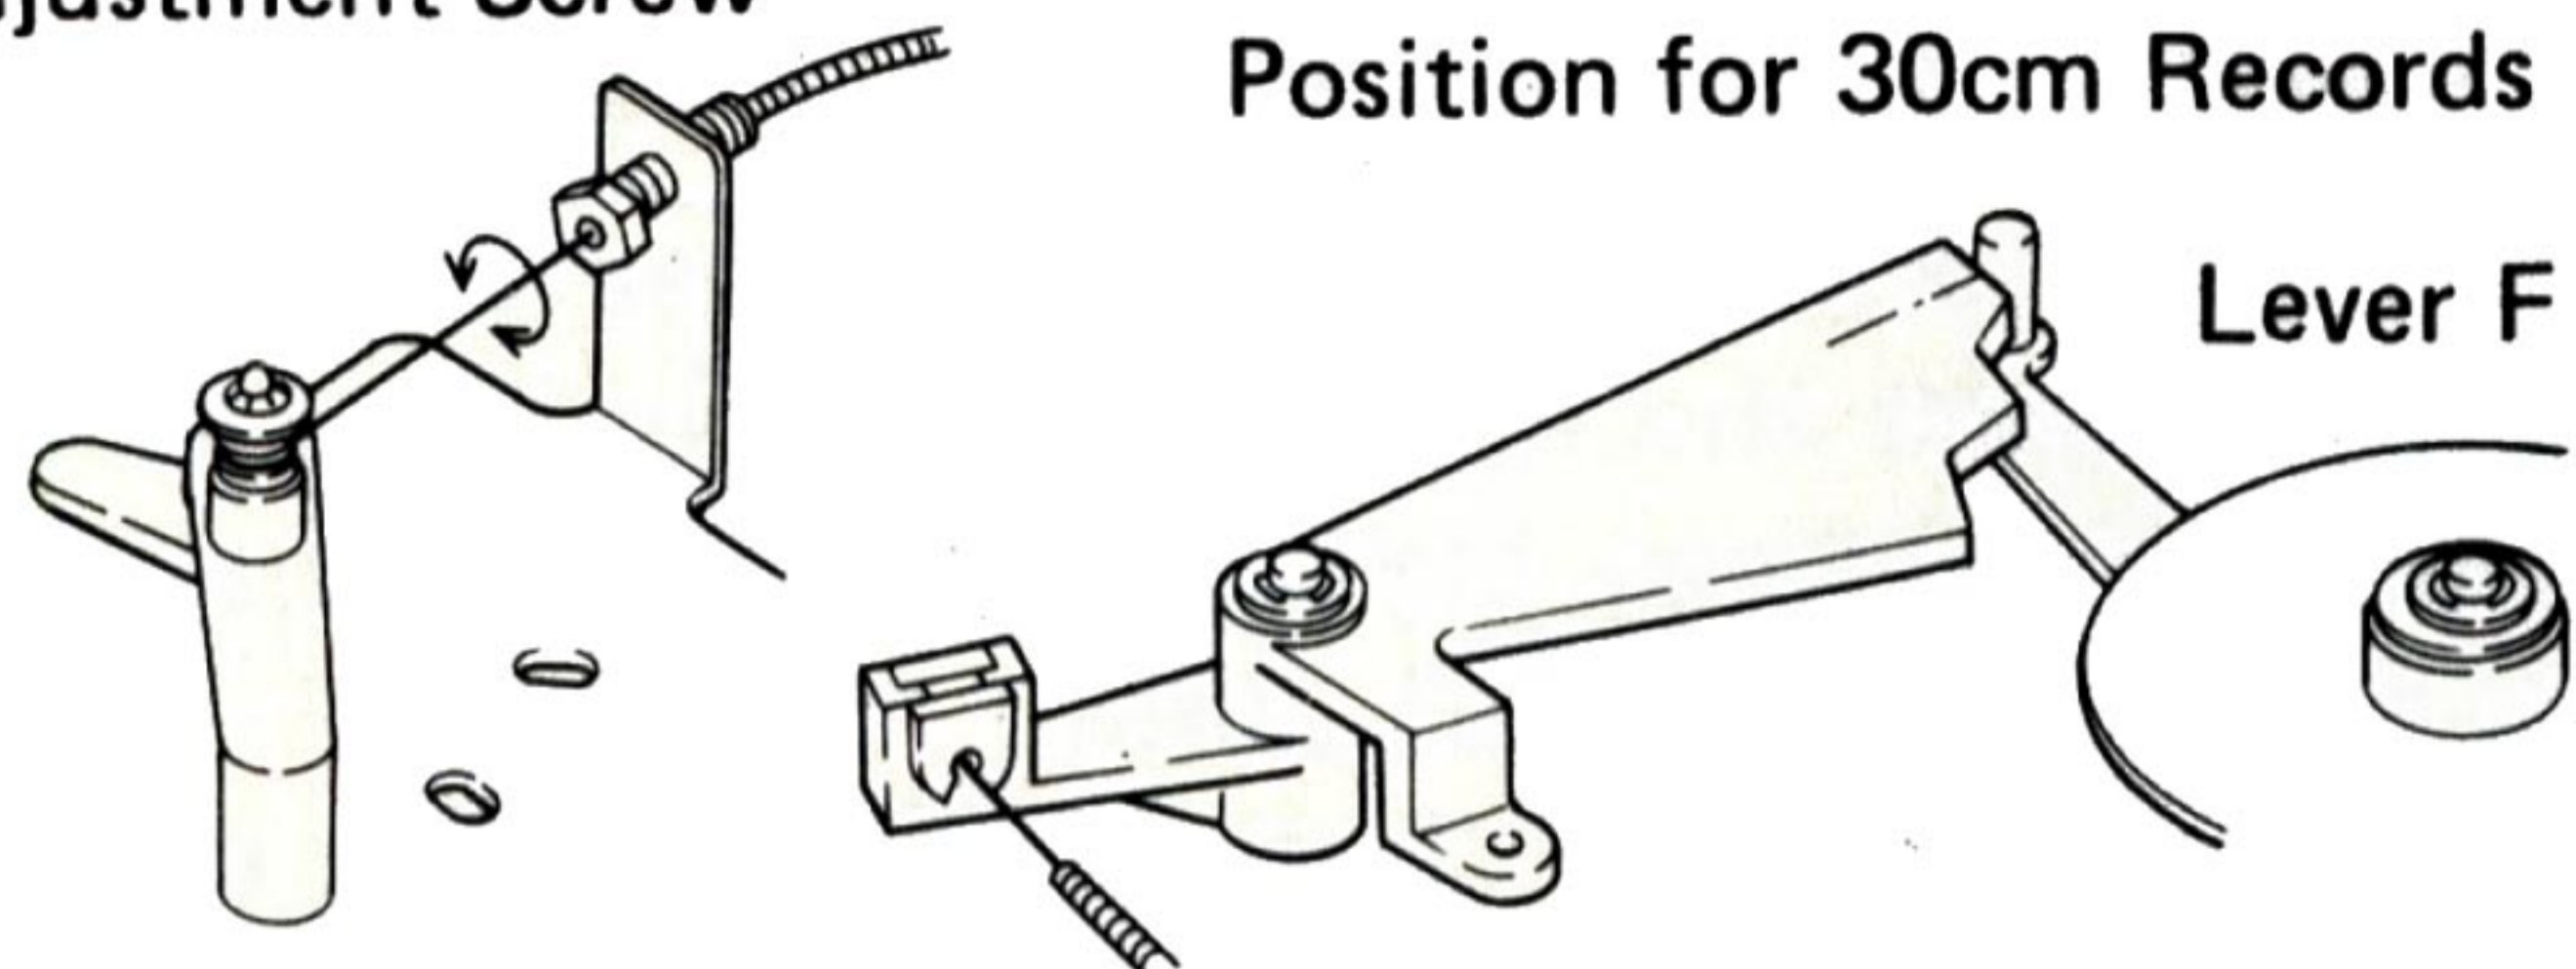

Fig. 26
2. Turn the wire adjustment screw (Fig. 26) so that lever F touches the edge of the white plastic section at the center.